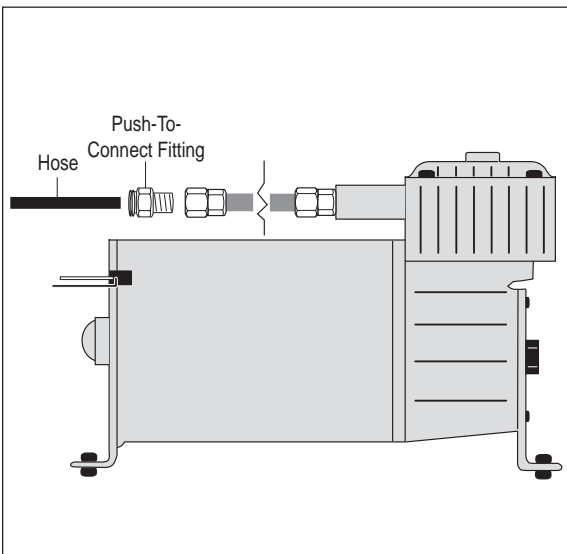

Figure 4
6. Install the fitting into the pressure port side of the leader hose (Figure 4).
6. Install the air line into the air line fitting previously installed on the compressor (Figure 4).